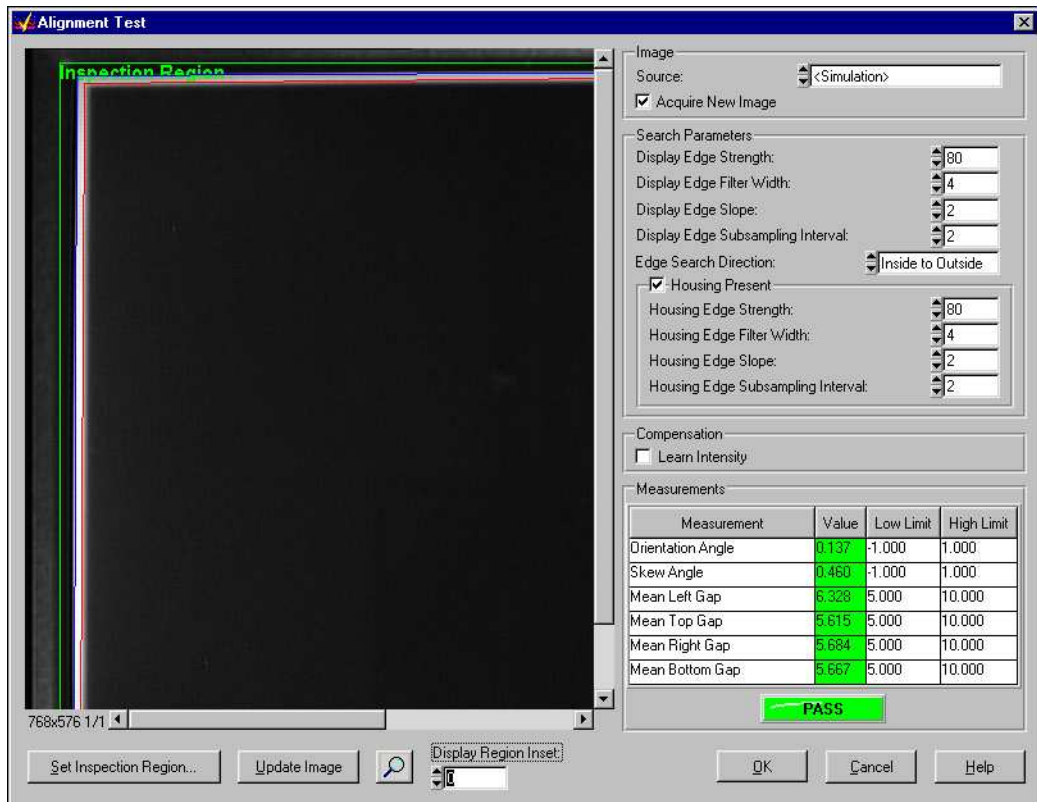

Figure 2-7. Alignment Step Configuration Panel
1. Right-click the **Alignment** step and select **Configure Alignment** from the context menu. A configuration interface appears, as shown in Figure 2-7.